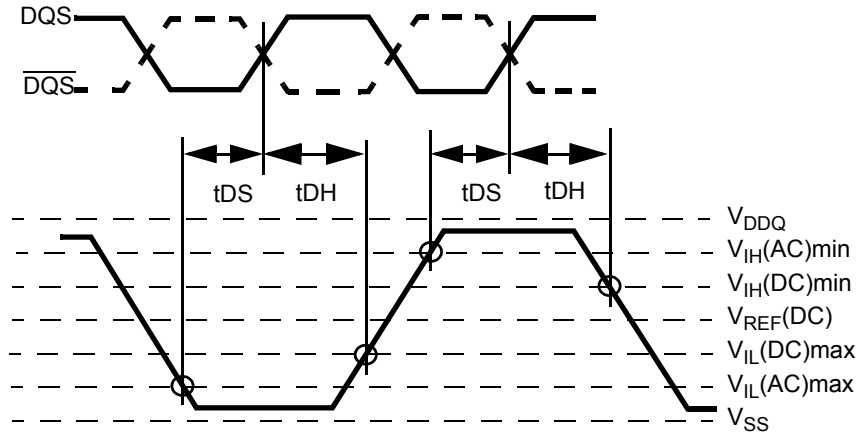

Figure 20. Differential input waveform timing -  $t_{DS}$  and  $t_{DH}$
20. Input waveform timing  $t_{DS}$  with differential data strobe enabled  $MR[\text{bit}10]=0$ , is referenced from the input signal crossing at the  $V_{IH}(\text{AC})$  level to the differential data strobe crosspoint for a rising signal, and from the input signal crossing at the  $V_{IL}(\text{AC})$  level to the differential data strobe crosspoint for a falling signal applied to the device under test.  $DQS, \overline{DQS}$  signals must be monotonic between  $V_{IL}(\text{DC})_{\text{max}}$  and  $V_{IH}(\text{DC})_{\text{min}}$ . See Figure 20.
21. Input waveform timing  $t_{DH}$  with differential data strobe enabled  $MR[\text{bit}10]=0$ , is referenced from the differential data strobe crosspoint to the input signal crossing at the  $V_{IH}(\text{DC})$  level for a falling signal and from the differential data strobe crosspoint to the input signal crossing at the  $V_{IL}(\text{DC})$  level for a rising signal applied to the device under test.  $DQS, \overline{DQS}$  signals must be monotonic between  $V_{IL}(\text{DC})_{\text{max}}$  and  $V_{IH}(\text{DC})_{\text{min}}$ . See Figure 20.